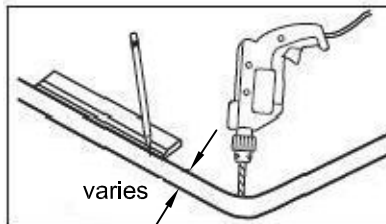

Figure 2
5. Remove sink from countertop and draw a cutout line $\frac{3}{4}$ " inside the original rim's outside line on the front and rear and a $2\frac{3}{4}$ " cut-out line on the sides with a $1\frac{1}{2}$ " radius at corner. Drill holes at the inside corners of the cutout line. (FIGURE 2)